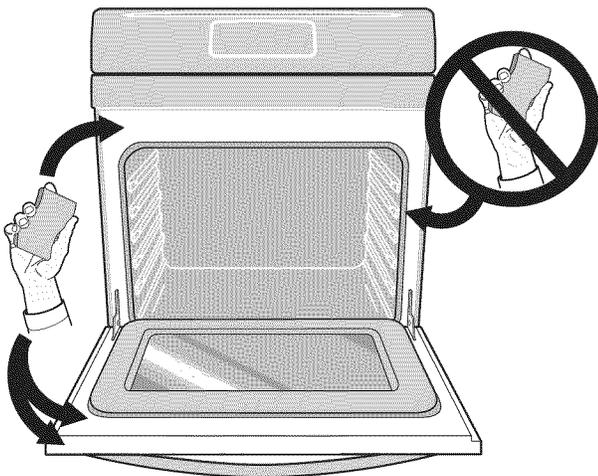

Figure 41: Clean around the oven door gasket
- Do not use oven cleaners or protective coatings in or around any part of the oven interior. Do not clean the oven door gasket. Take care not to rub, damage, or remove the gasket or use any cleaning substances on the oven door gasket (See Figure 41). Doing so could cause damage and reduce the efficiency of the oven's performance.
- Clean any soil from the oven frame, door liner outside the oven door gasket, and the small area at the front center of the oven bottom with soap and water (See Figure 41). These areas heat sufficiently to burn soil on.